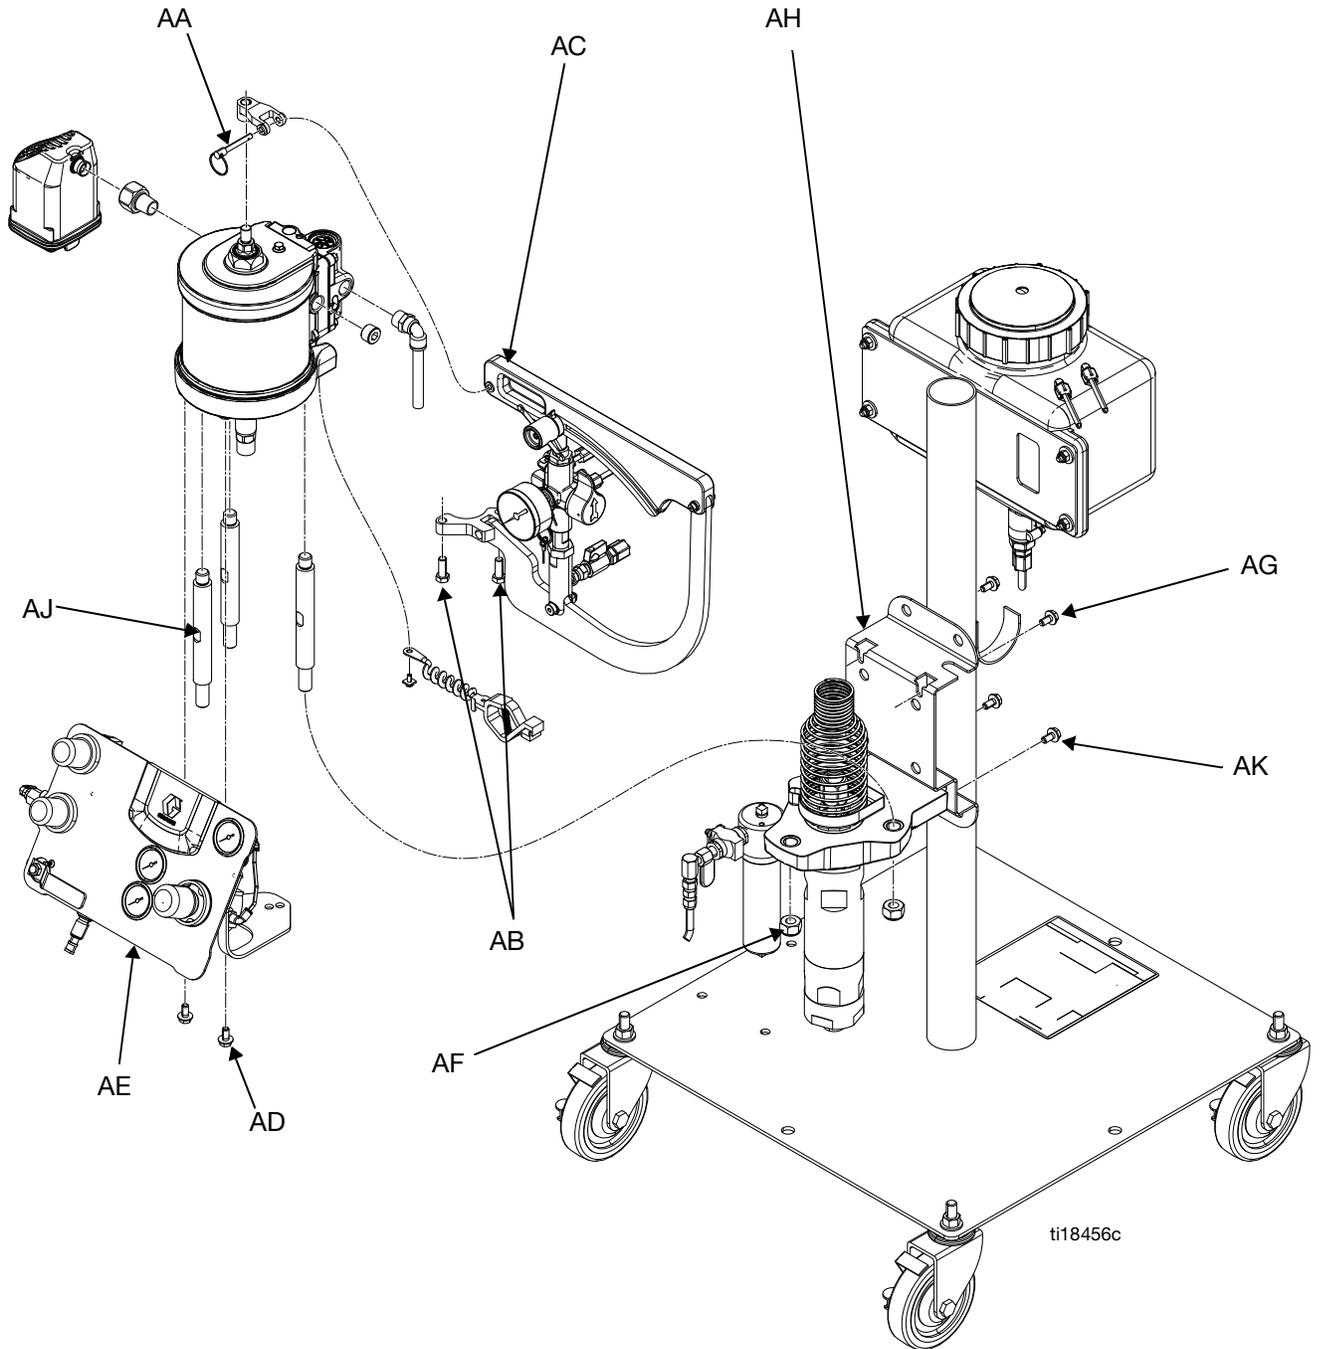

FIG. 37
See manual 3A2315 for air motor service and parts information. See FIG. 37 on page 47.
See FIG. 37 on page 47.
3. Disconnect main air line from air panel (AE).
4. Disconnect items from the air motor, see FIG. 37 on page 47:
- b. Remove the pump arm disconnect pin (AA) connecting upper catalyst pump arm (U1) to air motor, then remove bolts (AB) connecting lower catalyst pump arm (U2) to air motor then remove catalyst pump and control arms assembly (AC).
- c. Remove two bolts (AD) securing air control panel to air motor then remove air control panel (AE).
7. Use a socket to loosen the two screws (AG) connecting the air motor to the mounting bracket (AH).
8. Use a socket to remove the two screws (AK) securing the displacement pump to the mounting bracket.